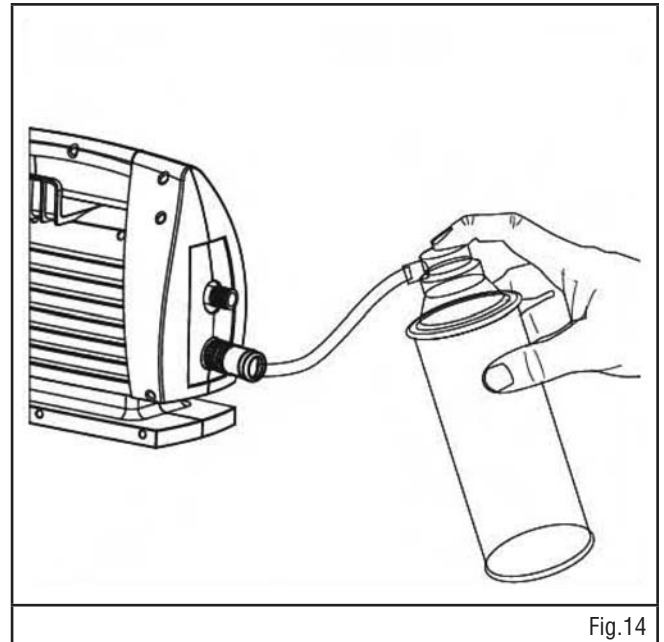

Fig.14
2. Connect the pump saver hose onto the adaptor and quick-connect coupling. (Fig. 14)